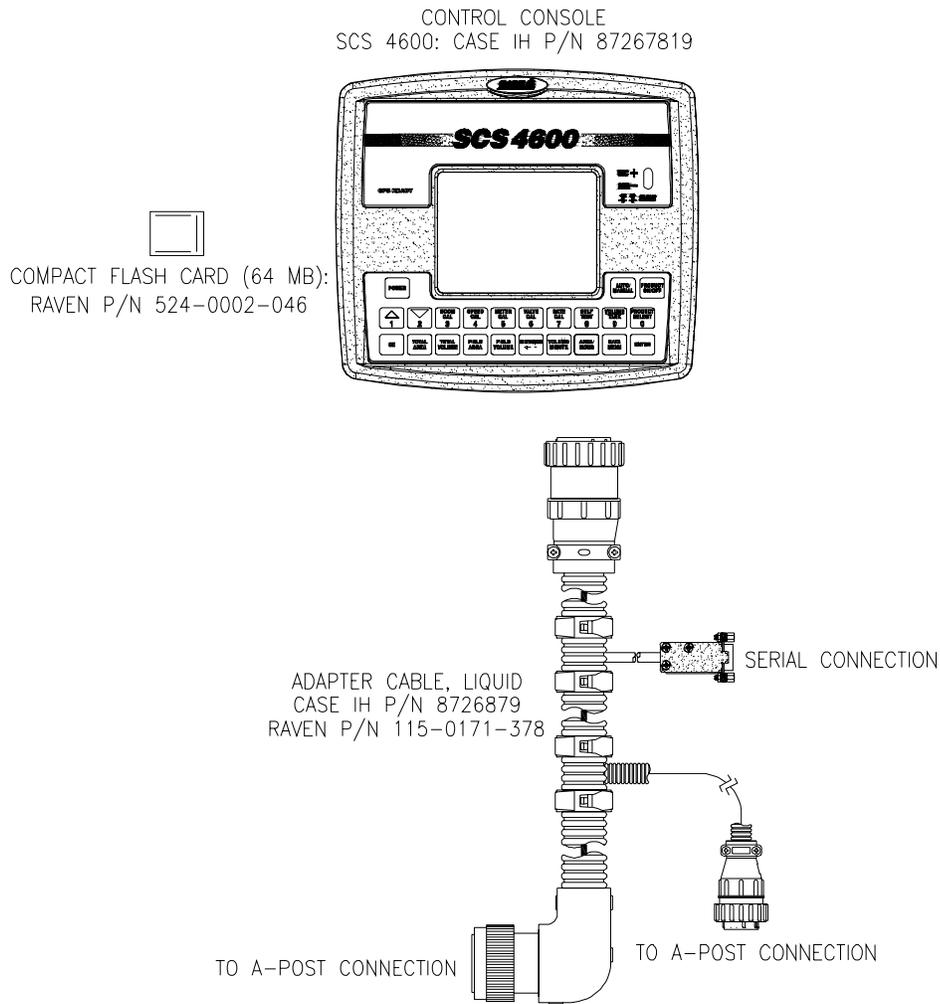

FIGURE 2
- 2) Connect the Adapter Cable to the plug in the back of the Console. (Reference Figure 2). Route the Adapter Cable to A-Post and terminate. (Flow Meter extension cables are available from your Dealer).